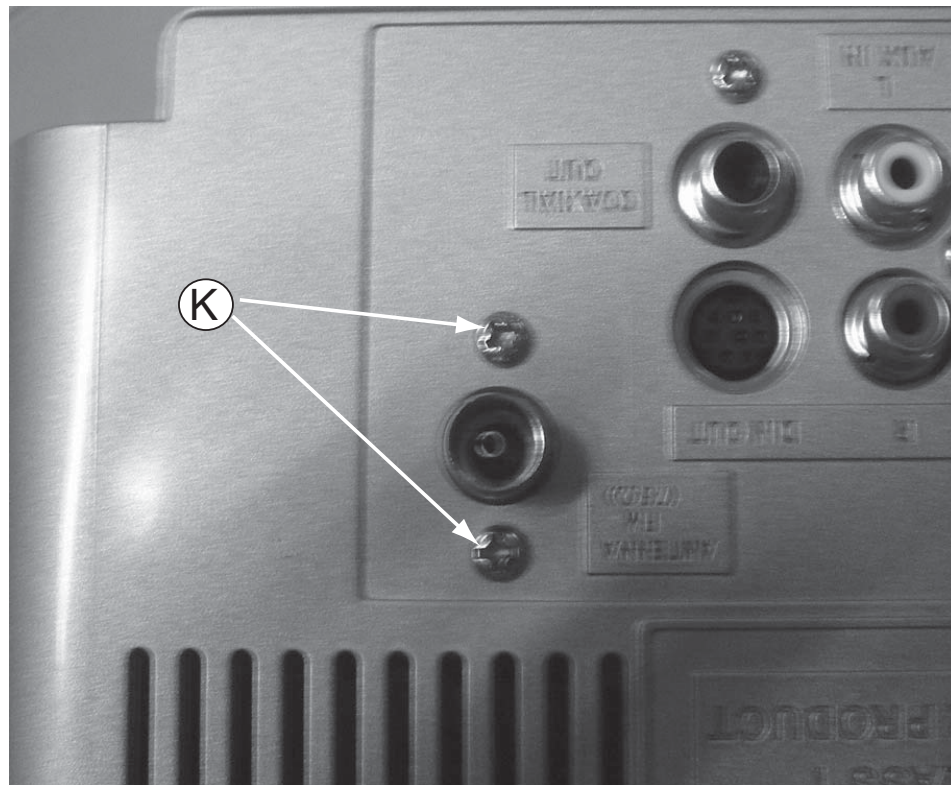

Figure 11
- 1) Loosen 2 screws "K" on the rear plate as shown in figure 11.